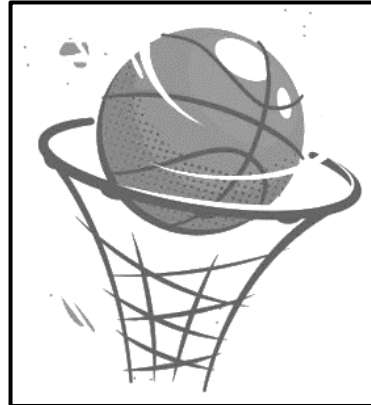

FIGURE 5.1
- 5.1 The basketball hoop shown in FIGURE 5.1 below must be manufactured using a 16 mm diameter round bar. The ring has an inside diameter of 550 mm.